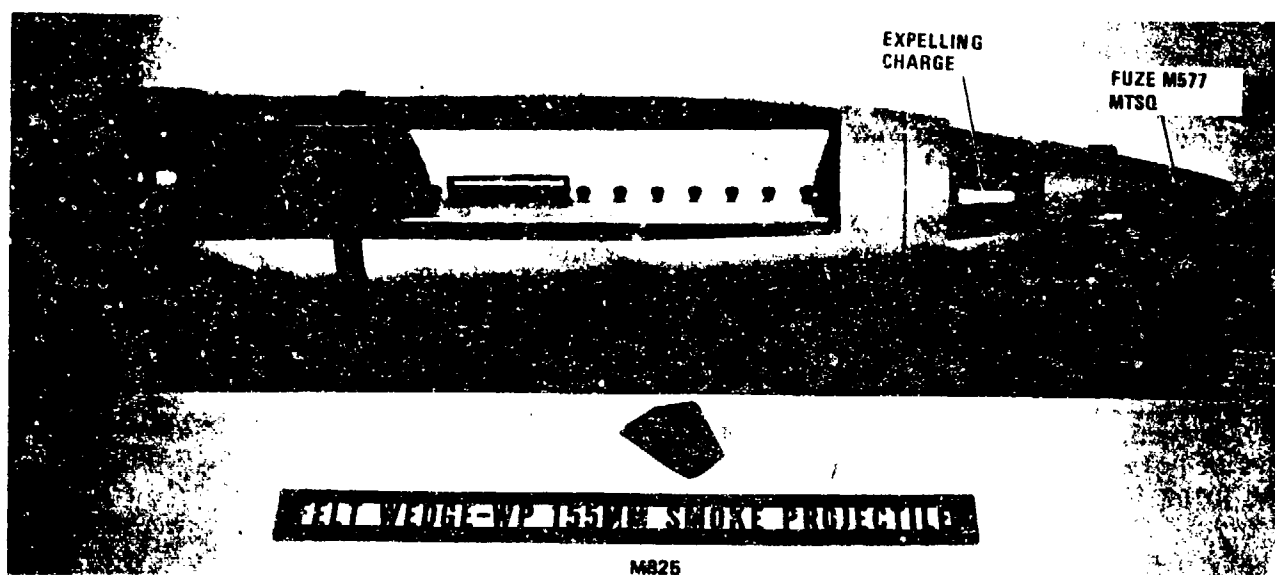

Figure 11-44. M825 felt wedge-WP 155-mm smoke projectile.
(5) *M825 smoke projectile.* A new smoke projectile (fig 11-44) has been developed to provide increased obscuration effectiveness of two to three times that for the current smoke projectiles. A smoke screening obscuration time between 5 and 10 minutes has been obtained. This improved smoke projectile utilizes felt wedges impregnated with white phosphorus (WP) to facilitate rapid dissemination. Upon in-flight functioning of the M577 MTSQ fuze, an expulsion charge is ignited within the nose of the projectile causing base ejection and ignition of the smoke producing payload of the WP-felt pad wedges. These multiple